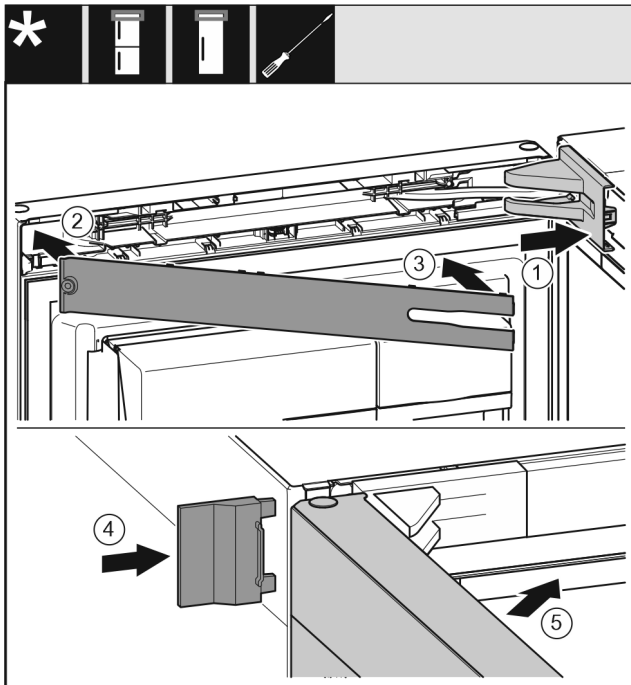

Fig. 26
- Put the swap bearing block cover Fig. 26 (1) on and engage, push apart carefully if required.
- Fit the trim Fig. 26 (2).
- Swivel in the cover Fig. 26 (3) and engage.
- Push the outer cover Fig. 26 (4) on.
- Close the upper door Fig. 26 (5).